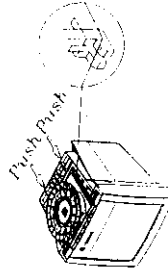

Figure 2
3. Push the tilt swivel and base in the direction of arrow (←) as indicated in Figure 2 to lock the hooks.